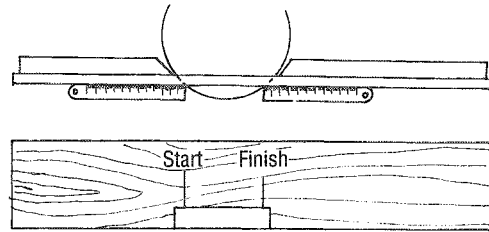

Fig. 5.46 Marking entry and exit of cutter.
2. Mark on to the fence where the cutter starts and finishes cutting by placing a steel rule on the fence and carefully turning the block until it is making light contact with the rule (**Fig. 5.46**).